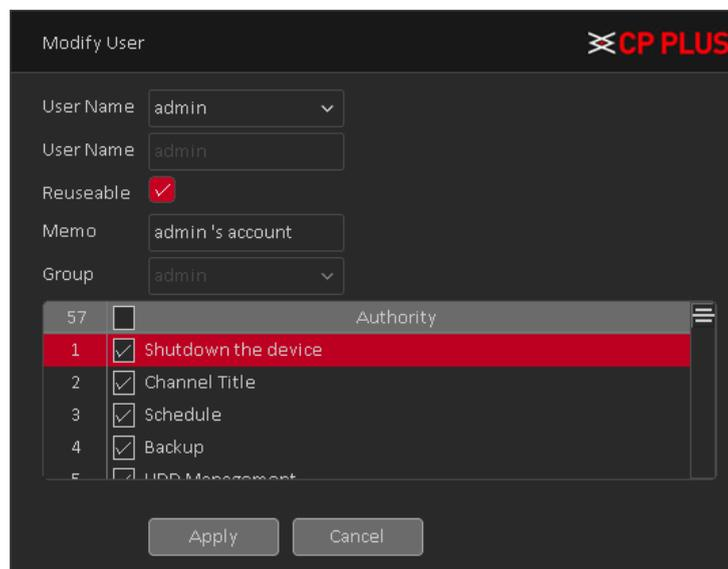

Figure 4.68
- **[Modify User]** Modify the user name has been added, whether reuse, notes, group, class, and permissions. See Figure 4.68